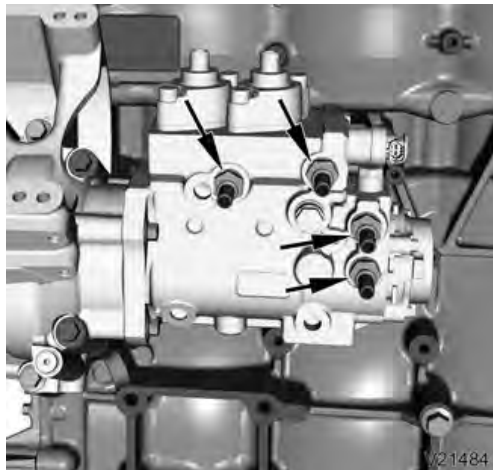

Figure 25. M16 x 1.5 Quick-connect Fittings
2. M12 x 30 bolt (2)
4. M14 x 30 bolt (2)
12. If not installed on replacement unit, transfer four M16 x 1.5 quick-connect fittings with new 16.7 x 24 seal rings to HP fuel pump. Torque fittings to 22 lb-ft (30 N·m) (Figure 25).